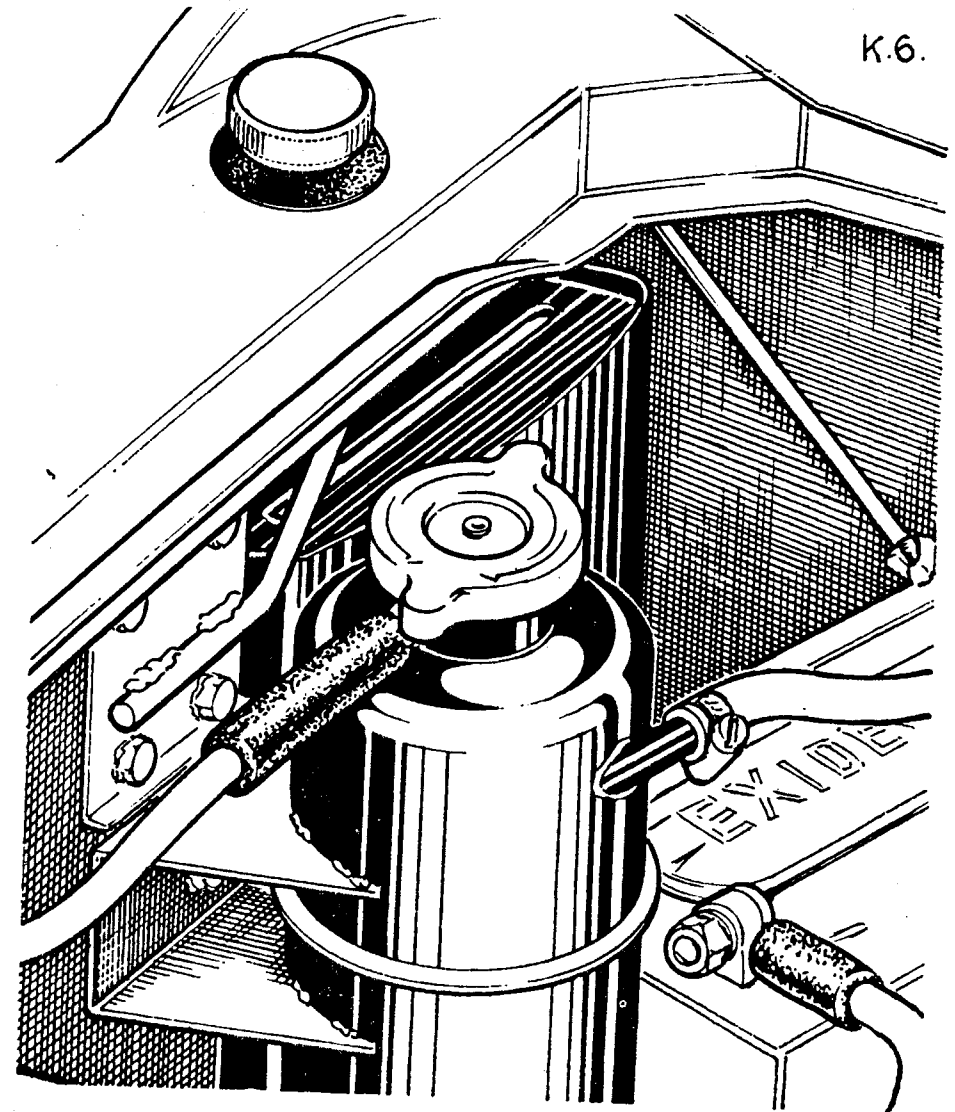

Fig. 15. Header tank and filler
3. Remove filler cap on header tank, (Fig. 15), and fill with coolant until coolant escapes continuously from vent on radiator.